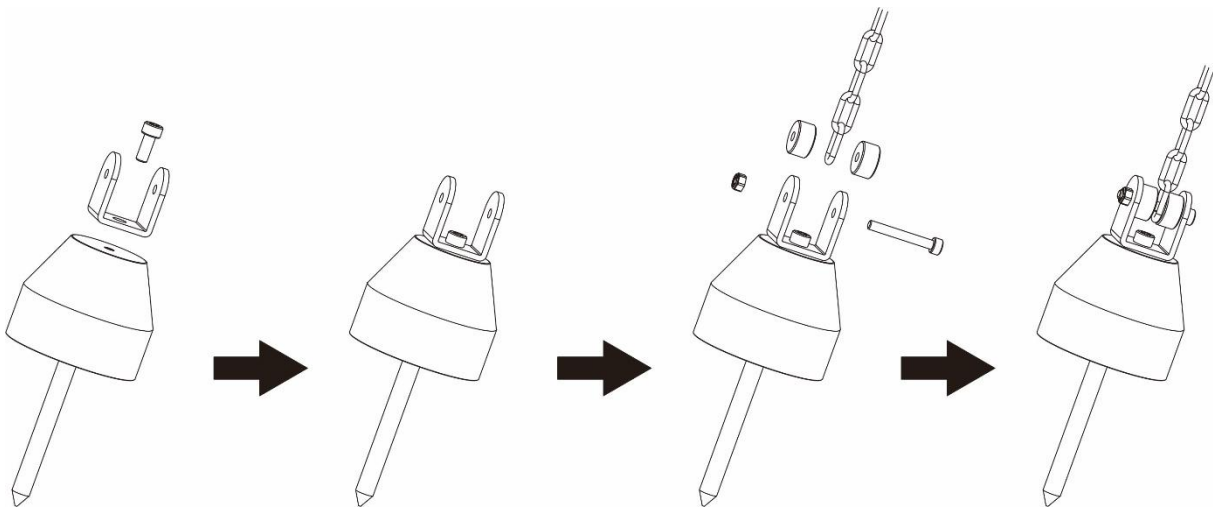
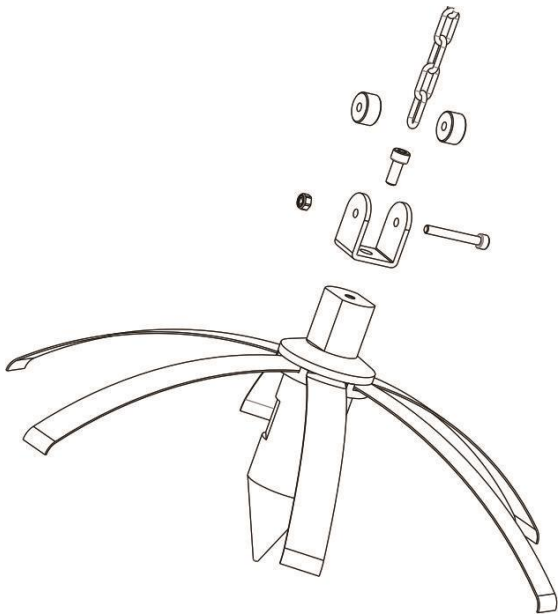

Fig.4
Fig.5
8.3.1 Put the U-shaped lifting ring on the top of the sensing weight, fix the equal-height screws and use the hexagonal wrench to tighten it. Put the M4 screw to go through in order from lifting ring, locating ring, iron chain, locating ring, lifting ring, and fix the arresting nut and tighten it firmly (Fig.4 & Fig.5).